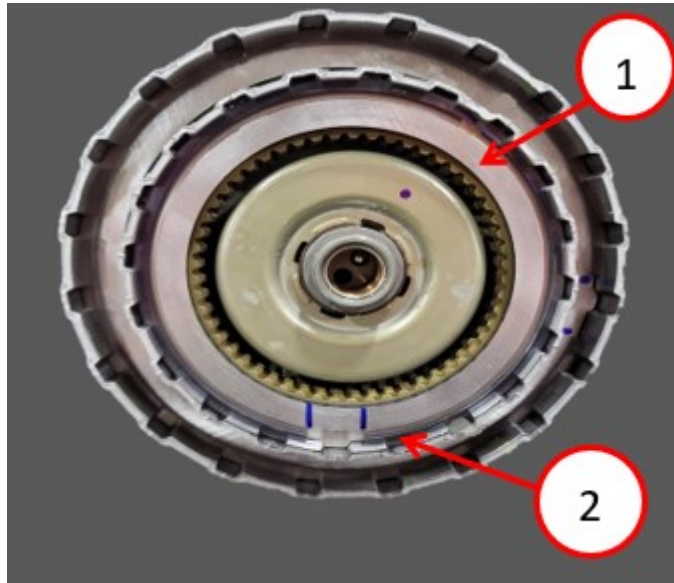

Fig. 8
- b. Replace the snap ring in K1 Drum with replacement P/N 68269568AB snap ring. Be sure to install so that the snap ring ends are covered in the groove by drum "teeth" (Fig. 8) (**not installed such that the ends are in open spaces of the groove**).
NOTE: The K1 snap ring should be fully seated inside K1 drum groove. The K1 clutch pack should remain inside the K1 assembly (Fig. 8) .